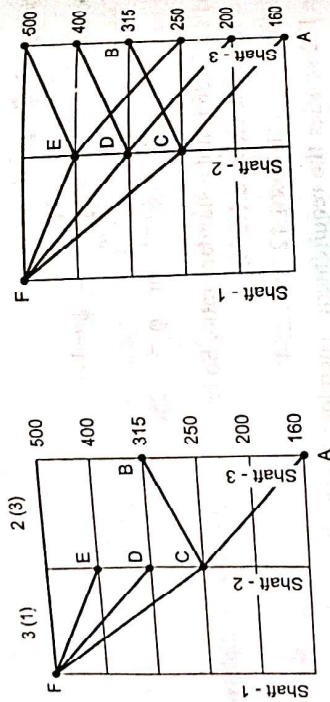

Fig. 9.4. Ray diagram for 6 speed gear box
- ✓ Since there are 6 spindle speeds, draw 6 horizontal equidistant lines to represent speeds. Then mark the speeds on the horizontal lines, as shown in Fig.9.4(a).
- ✓ From the structural formula, it is clear that there are two stages. In the second stage, i.e., in 2 (3), 2 represents the number of speeds available in a stage and (3) represents the steps or intervals between those two speeds.
Thus the completed ray diagram is shown in Fig. 9.4(b).
In the second stage, we find input speed at C gives two output speeds at A and B. Similarly, input speeds at D and E should give two output speeds. That is, from point D, draw lines parallel to CA and CB. Then from point E, draw lines parallel to CA and CB, as shown in Fig. 9.4(b).